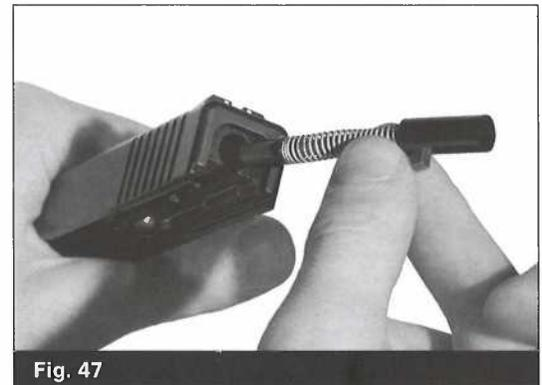

Fig. 47
- Insert the firing pin assembly into the firing pin channel. (Fig. 47)